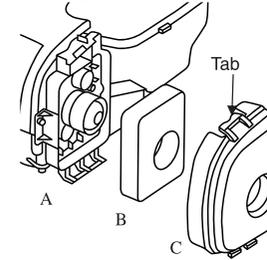

Fig. 11
1. Lift the tab on the cover and remove the air cleaner cover (C, Fig 11).
2. Remove the foam element (B).